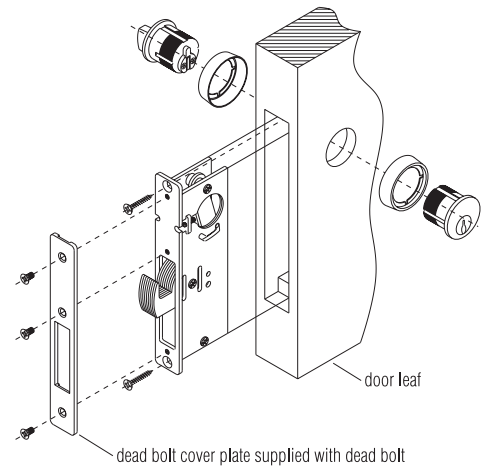

Figure 9
Following the manufacturer's directions, install the lock set in the pre-mortised opening in the door (Figure 9).
14. Position the latch plate in the door jamb and secure it. Slide the latch plate up over the cutout in the door jamb. Slide the door until it is nearly shut and actuate the lock so the position of the latch plate can be determined. Mark the location of the latch plate and secure it with the two screws provided (Figure 9).
For Door Type, Refer To Figure 9, Pages 33 & 34
### Details for Exposed Hardware Wood/Alum Installation (Figure 9).
### Details for Exposed Hardware Wood/Alum Installation (cont.) (Figure 9).